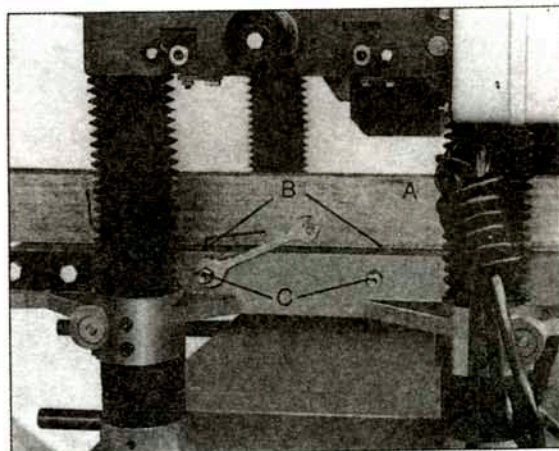

Fig. 15
2. Lay a straight edge (A) Fig. 15 across both rollers, loosen the screws (B) Fig. 15, and turn the eccentric shafts (C) to raise or lower the table rollers, when the proper height is obtained tighten screws (B) as shown in Fig. 15. Table rollers must be adjusted on the opposite end of table in the same manner.